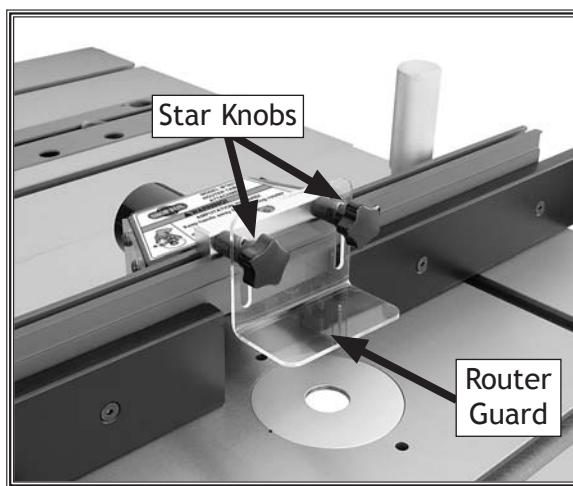

**Figure 15.** Guard bracket attached to the fence.
12. Slide the attached square nut on the guard bracket into the top fence T-slot, center it with the dust hood and dust port, then tighten the cap screw to secure it in place, as shown in **Figure 15**.